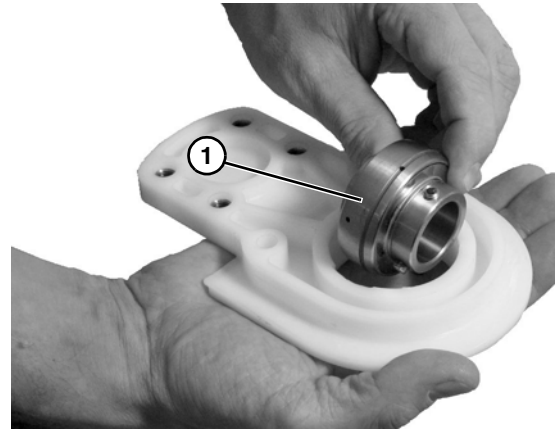

Figure 43
- Twist the bearing out (Figure 43, item 1).